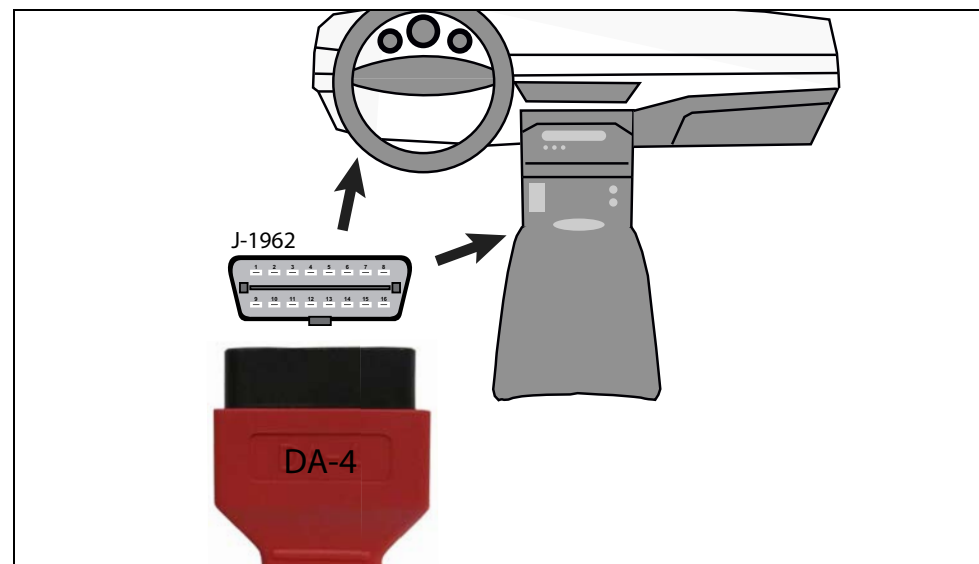

Figure 4-4 DA-4 data cable (16-pin end) connection to vehicle DLC (typical DLC locations)
- Connect the 16-pin (J-1962) end of DA-4 cable (Figure 4-4) to the vehicle DLC.